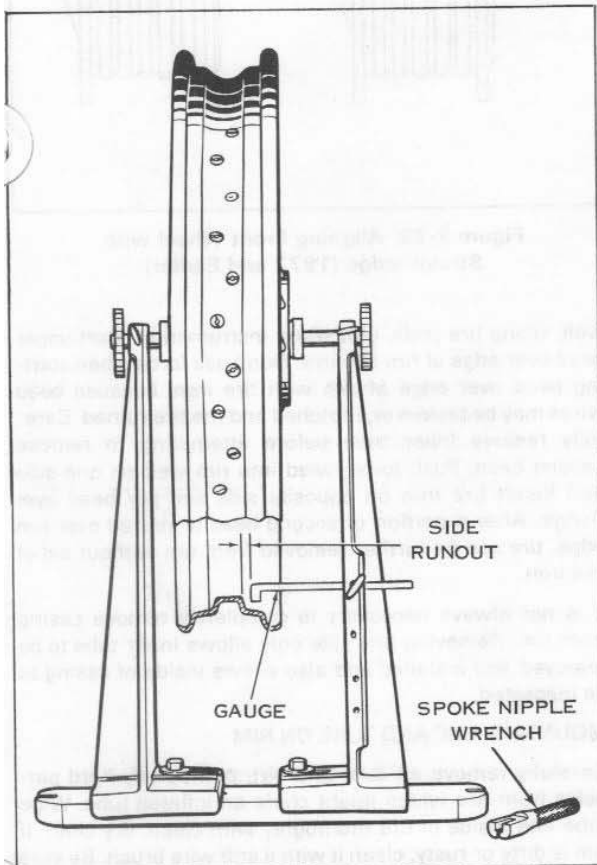
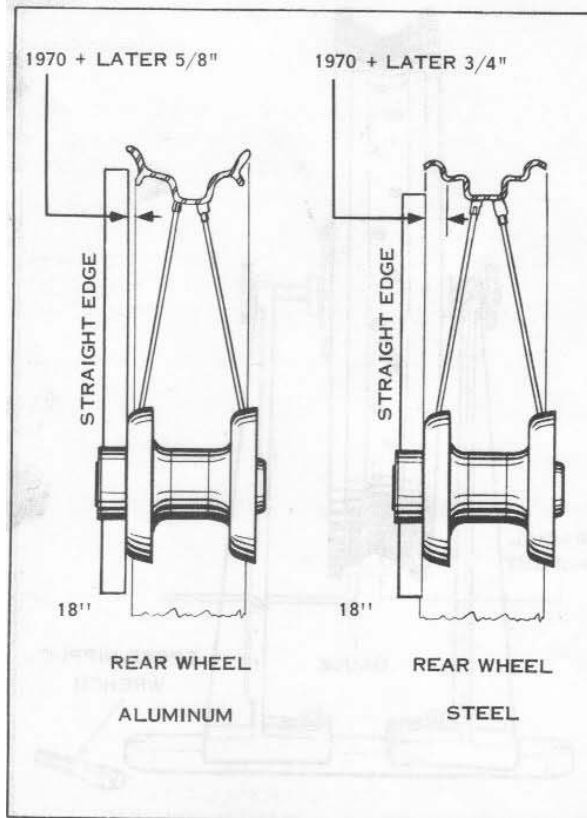

Figure 2-19. Truing Rim Sideways
Figure 2-21. Aligning Rear Wheel with Straightedge
See Figure 2-19 and proceed as follows. Insert arbor in wheel hub and place wheel in Truing Stand, Part No. 95500-29A.
4. Front and Rear Wheel: Check rim for concentricity, centering sideways with hub and for running true sideways (Figures 2-19 and 2-20). Centering rim sideways must be done as one operation. Rim must be properly centered sideways in relation to hub for correct alignment and "tracking" of wheels. Figures 2-21, 2-22 and 2-23 show method of using a straightedge to determine correct sideways centering of wheel rim. If rim is too close to straightedge, loosen all nipples on brake side and tighten all nipples on opposite side same amount. If rim is too far
Adjust truing stand gauge (Figure 2-19), to side of rim well so rim at highest point will strike gauge as wheel is rotated slowly. Loosen nipples at highest point of rim on gauge side, and tighten nipples on opposite side the same number of turns. Repeat this operation until rim runs true sideways. Reverse loosening and tightening of nipples, as explained above, if rim moves too far away from gauge. After each loosening and tightening of spokes, check rim in relation to hub as shown in Figures 2-21 and 2-22. Rim should be trued sideways to within $1/32$ in.